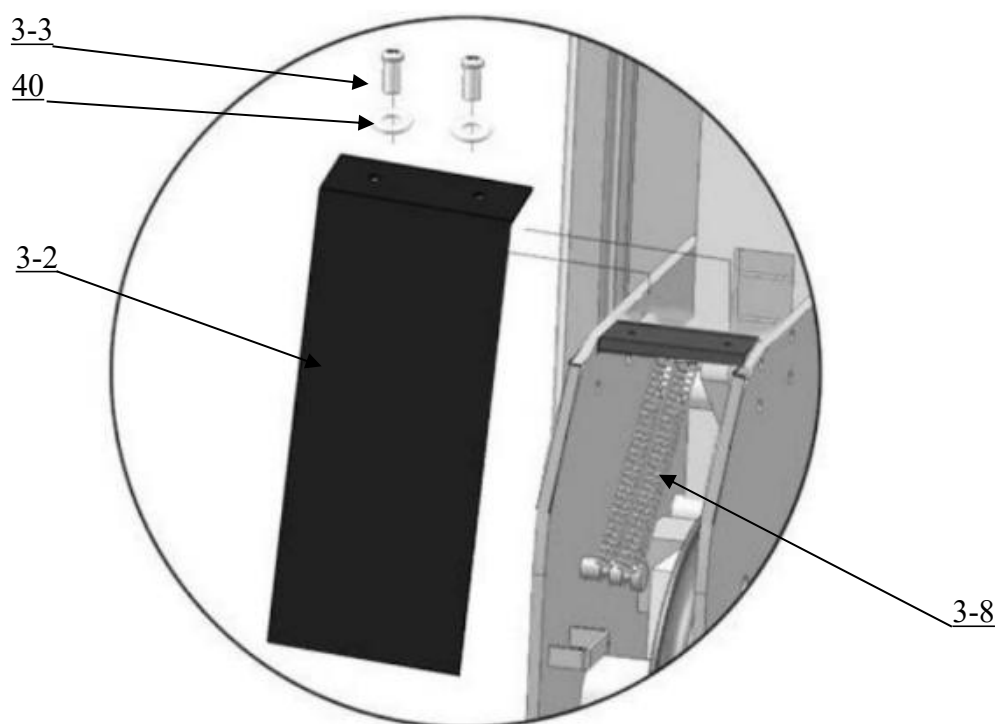

Fig. 48
O. Install spring and safety cover of cross beam (See Fig. 48)